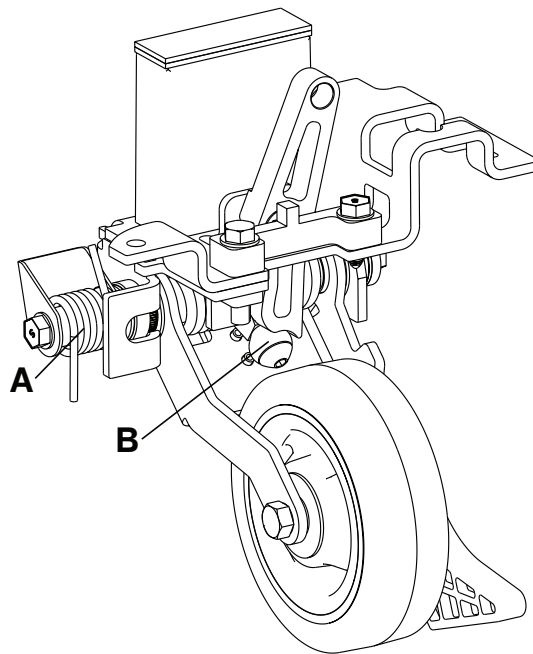

Figure 31 – Retractable fifth wheel lubrication
3. Apply MPG-3 grease to the spring (A) and roller (B) (Figure 31).